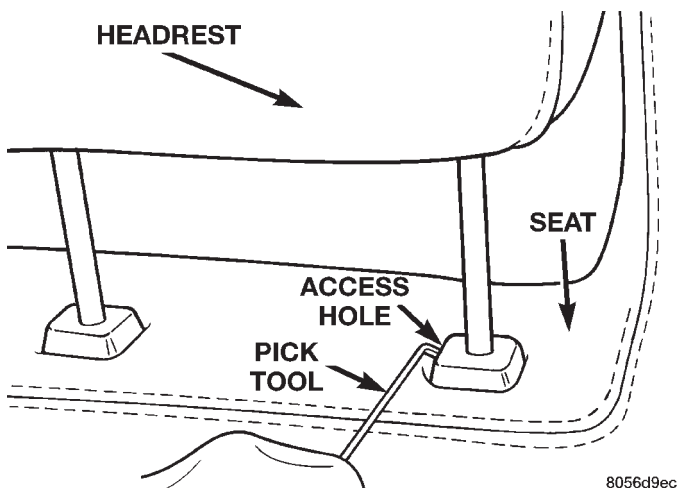

Fig. 7 Headrest Removal
(4) Remove upper recliner handle and lumbar adjustment handle, if so equipped.
(5) Remove headrest (Fig. 7).